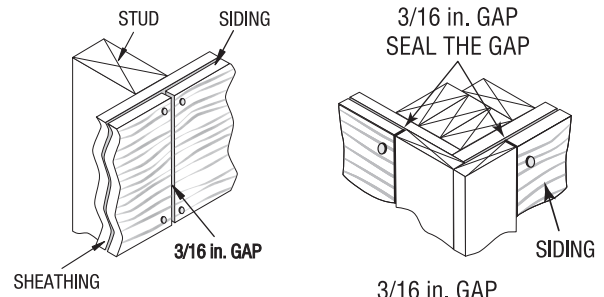

Figure 2
- All lap products require that the butt joints be located on the studs and nailed at the joints (see Fig. 2 and 3).
- For Designer Shake Lap Siding, leave 3/16 in. gap at all butt joints (see Fig. 2).